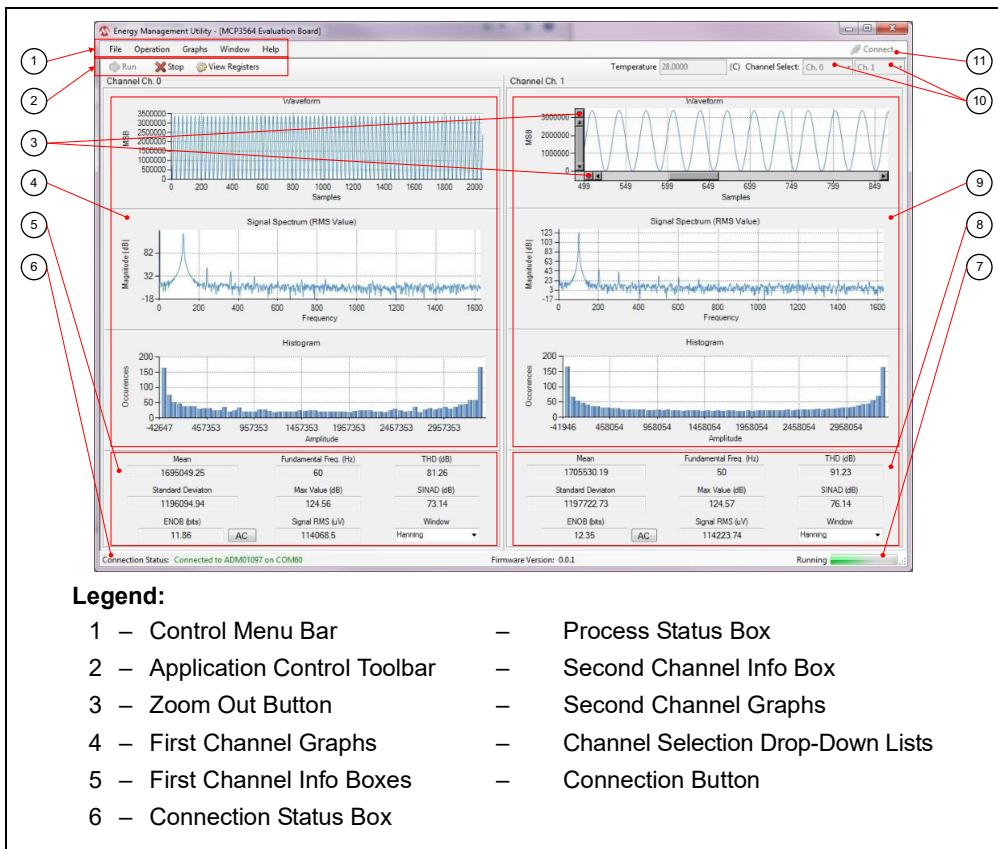

FIGURE 4-5: Main Window.
If the connection status is “Not Connected” (Figure 4-5, Number 6), repeat the hardware connection process, press the **Connect** button (Figure 4-5, number 11) and select the corresponding COM Port.
Once the hardware is properly connected, the default settings are uploaded into the ADC and the application is ready to be used. By pressing the **Run** button, the data acquisition starts and the status label (Figure 4-5, Number 7) changes from Idle to running.
- The control menu bar (Figure 4-5, Number 1) provides access to File, Operation, Graphs, Window and Help menus that are intuitive and easy to access, as well as the **Connect** button for reconnecting to the MCP3564 ADC Evaluation Board V2
For a better visualization, there is a zoom-in option available by clicking and dragging with the mouse on the desired graph. Zoom-out can be performed by using the **Zoom-Out** button on each graph's axis (Figure 4-5, Number 3). By default, the graphs are set to auto-scale, but that can be changed by selecting “Manual Scale” in the following menu: